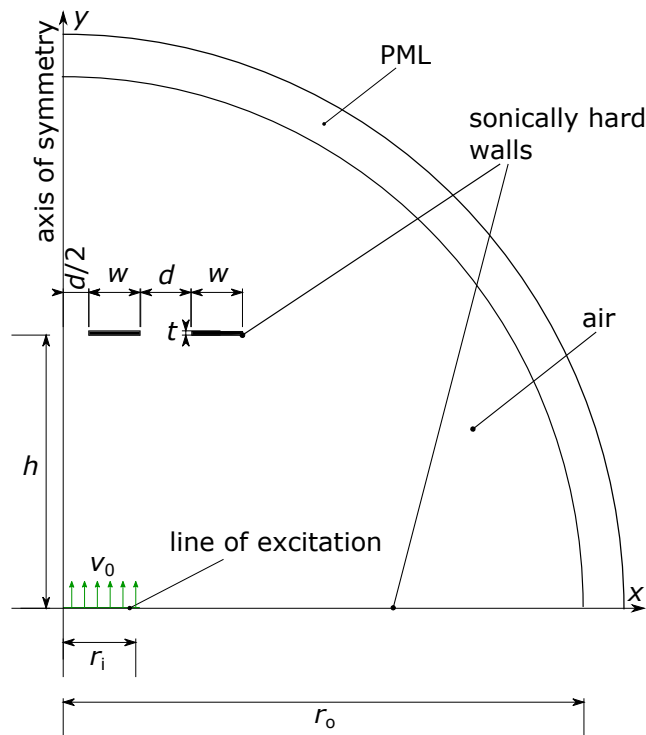

Figure 1: Plane geometry for the investigation of acoustic diffraction.
Figure 1 shows the **plane** geometry which shall be investigated (not axi-symmetric!). It consists of an air region in the form of a half circle of radius  $r_o$  and is enclosed at its curved outer boundary by a perfectly matched layer (PML). At a distance  $h$  from the bottom of the air domain, the aperture plate is located. It consists of four sonically hard walls of width  $w$  which are separated by three holes of diameter  $d$ . The system is excited by an excitation line of width  $r_i$ . Note that due to symmetry with respect to the  $y$ -axis only half of the geometry is depicted.
1.2. The circular outer boundary of the setup shall be modeled as a perfectly matched layer (PML) and has to be placed at a proper distance from the obstacle. Add an appropriate domain for the PML to the geometry as indicated in the Fig. 1.